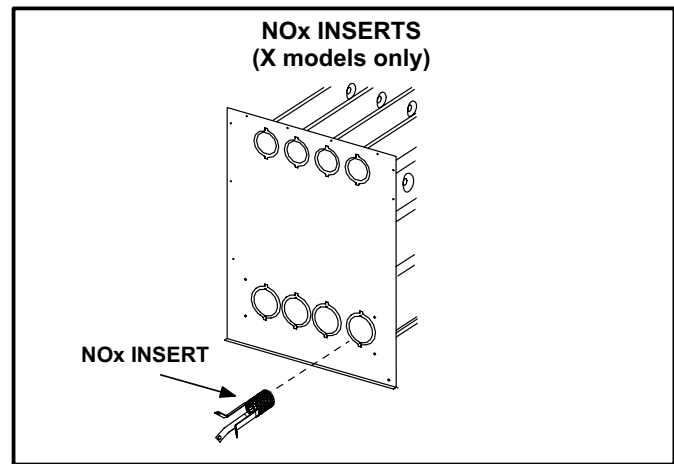

FIGURE 17
- 8 - **NOx units only** - Remove the three screws that attach the NOx insert to the corbel at the entrance to each heat exchanger section. Carefully remove the NOx insert from each section. See figure 17.
- 16- **NOx units only** - Reattach the NOx inserts to the corbels at the entrance to each heat exchanger opening. See figure 17.